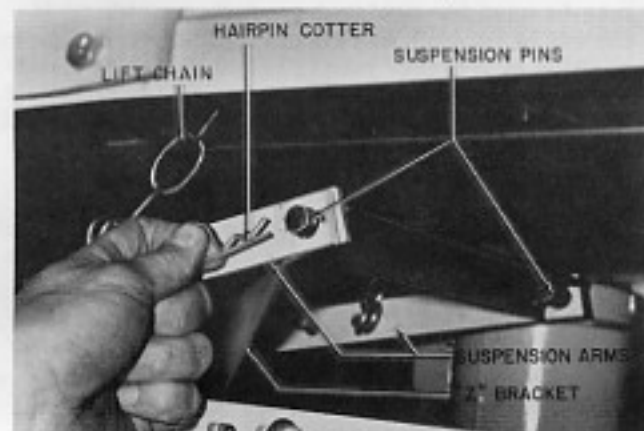

Fig. 14. Rear Suspension Assembly
To attach the mower, refer to Fig. 14 through 17 and take the following steps.
5. Secure the ends of the suspension pins to the "Z" bracket with hair pin cotters. (See Fig. 14.) Cotter pins may also be used.